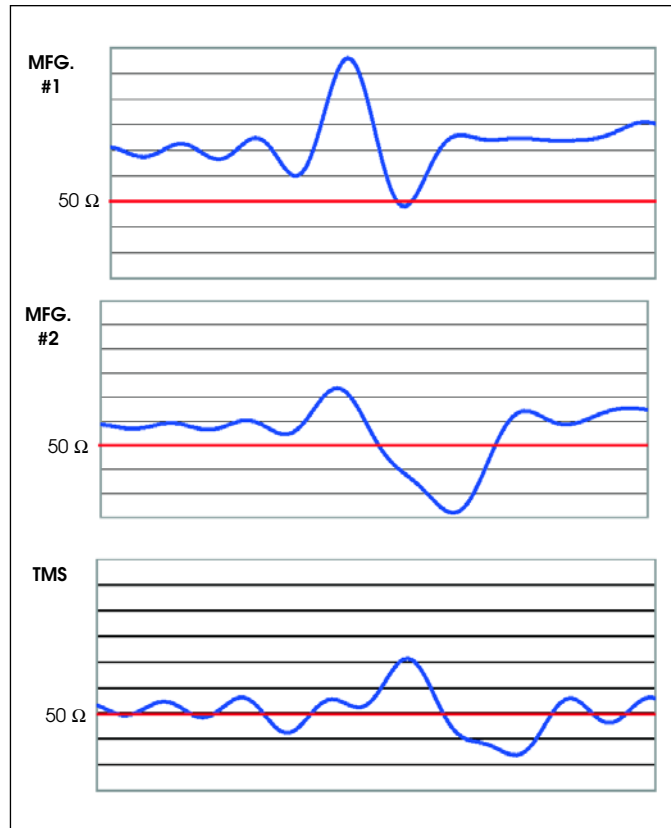

Figure 11 · TDR plots showing impedance deviations through the connectors.
Figure 11 demonstrates how easily the performance of the transmission line can deviate from the optimal. The vertical scale is 2 ohms per division. The connectors were swept across 400 ps on an HP8510 at 18 GHz. What we see is frequency-dependent and not an exact representation of the impedance, but at 18 GHz we get a very good idea of what is going on. Some of the things that are noticeable are: (1) how the different manufacturers compensated the diameter of the pin where it is encapsulated by dielectric. The pin diameter of the Times connector